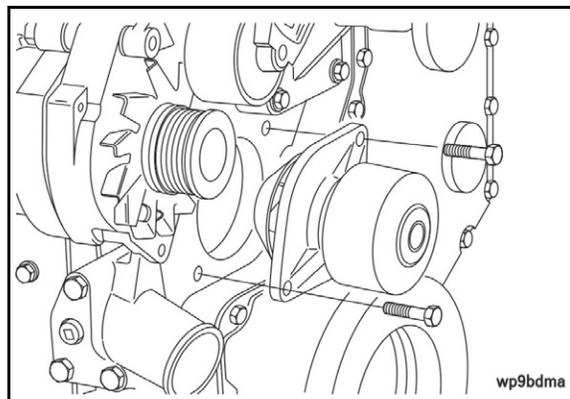

FIGURE 47. REMOVE THE CAPSCREWS AND WATER PUMP
8. Install the water pump. See Figure 47. Torque value: 18 ft-lb (24 Nm), 13 mm.